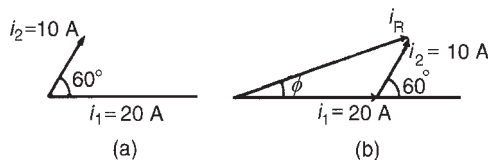

Figure 14.12
- (a) The relative positions of i_1 and i_2 at time $t=0$ are shown as phasors in Fig. 14.12(a). The phasor diagram in Fig. 14.12(b) shows the resultant i_R , and i_R is measured as 26 A and angle ϕ as 19° or 0.33 rads leading i_1 .
- (b) From Fig. 14.12(b), by the cosine rule: